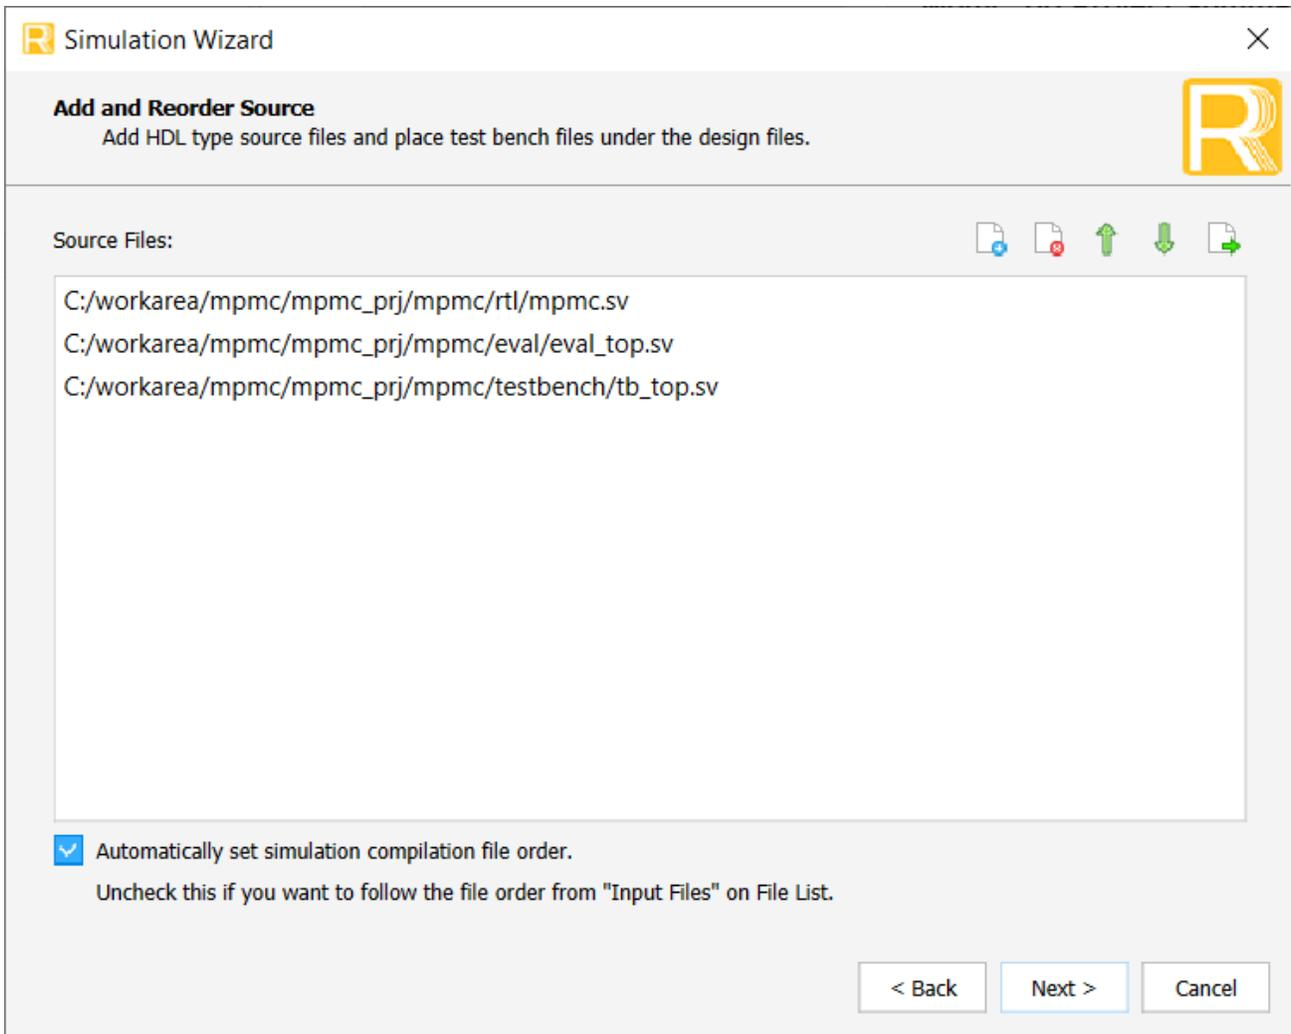

Figure 6.12. Adding and Reordering Simulation Source Files
2. The **Add and Reorder Source** window lists the source files in this example design, as shown in Figure 6.12. Besides the IP file, check that the **Source Files** list contains only the top-level evaluation (eval_top.sv) and top-level testbench (tb_top.sv) files. Click **Next**.